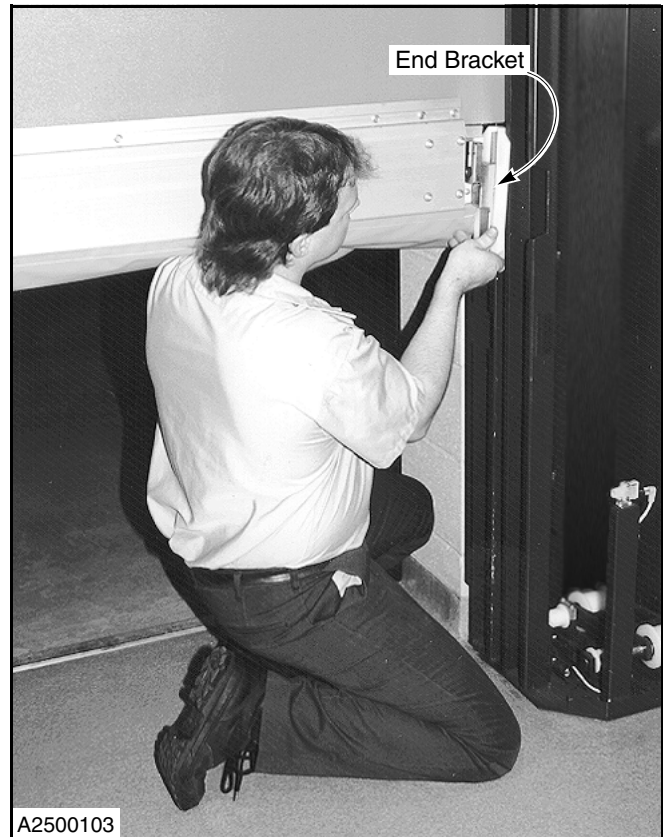

Figure 7
6. Insert the end bracket into the end of the bottom bar assembly. They are properly connected when the spring plunger on the end of the bottom bar assembly snaps into the end bracket. (See Figure 7.)